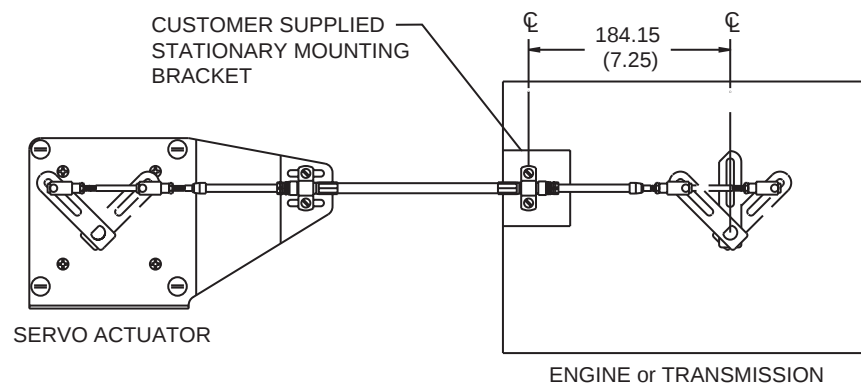

Figure 22. Push-Pull Cable Mounting Bracket
1. Fabricate a push-pull cable mounting bracket as needed, to attach/clamp the cable to the engine or transmission. The critical dimension is 7.25 inches from centerline of the clamp mounting holes to centerline of the engine/transmission lever. See Figure 22. Secure the bracket to engine/transmission.